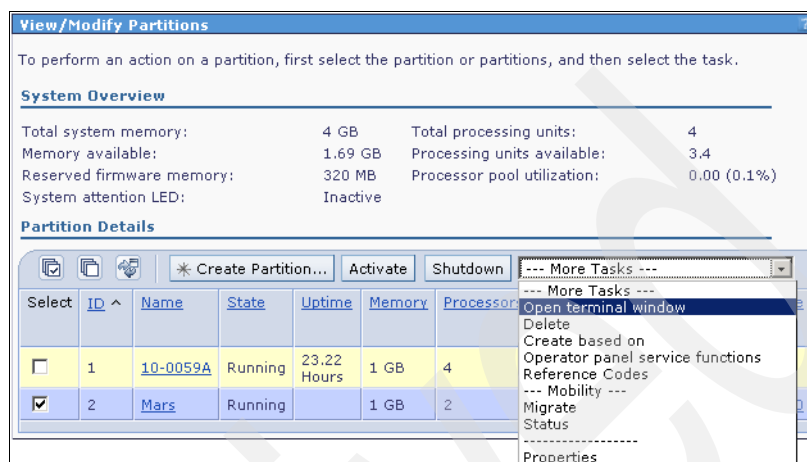

Figure 6-29 Open a virtual terminal to the partition
3. The state of the partition has changed to Running. Select **Open terminal window** from the More Tasks drop-down list box to open a terminal connected to the selected partition. See Figure 6-29.